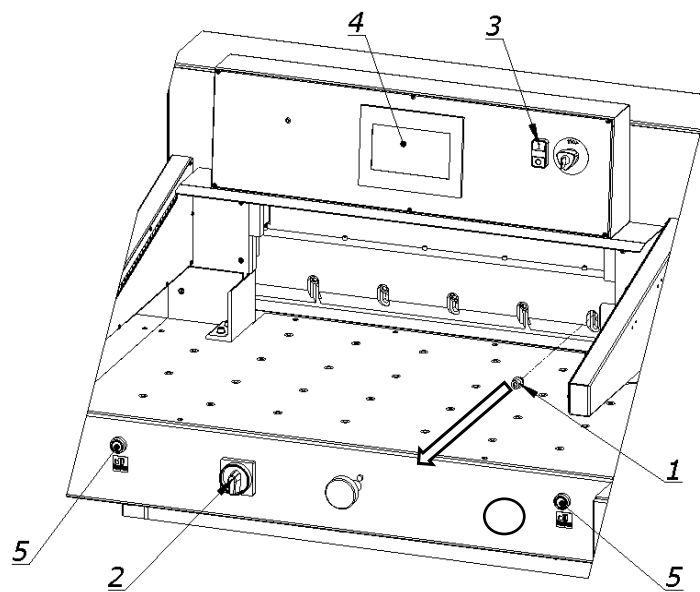

Figure.23
8.1.1.3 Unscrew and remove the first fastening screw 1 from the right side of the cutter bar (Fig. 23).
8.1.1.4 Switch on the power supply of the electrical system by turning the main switch knob 2 (fig. 23) to the "I" position
8.1.1.6 On the timer 4 screen (fig.23), deactivate the "knife change" function
8.1.2.8 Press the "knife change" function on the 3 programmer (fig.23)
8.1.2.21 Turn on the power supply to the control system by pressing the green push button 3 (fig.23).